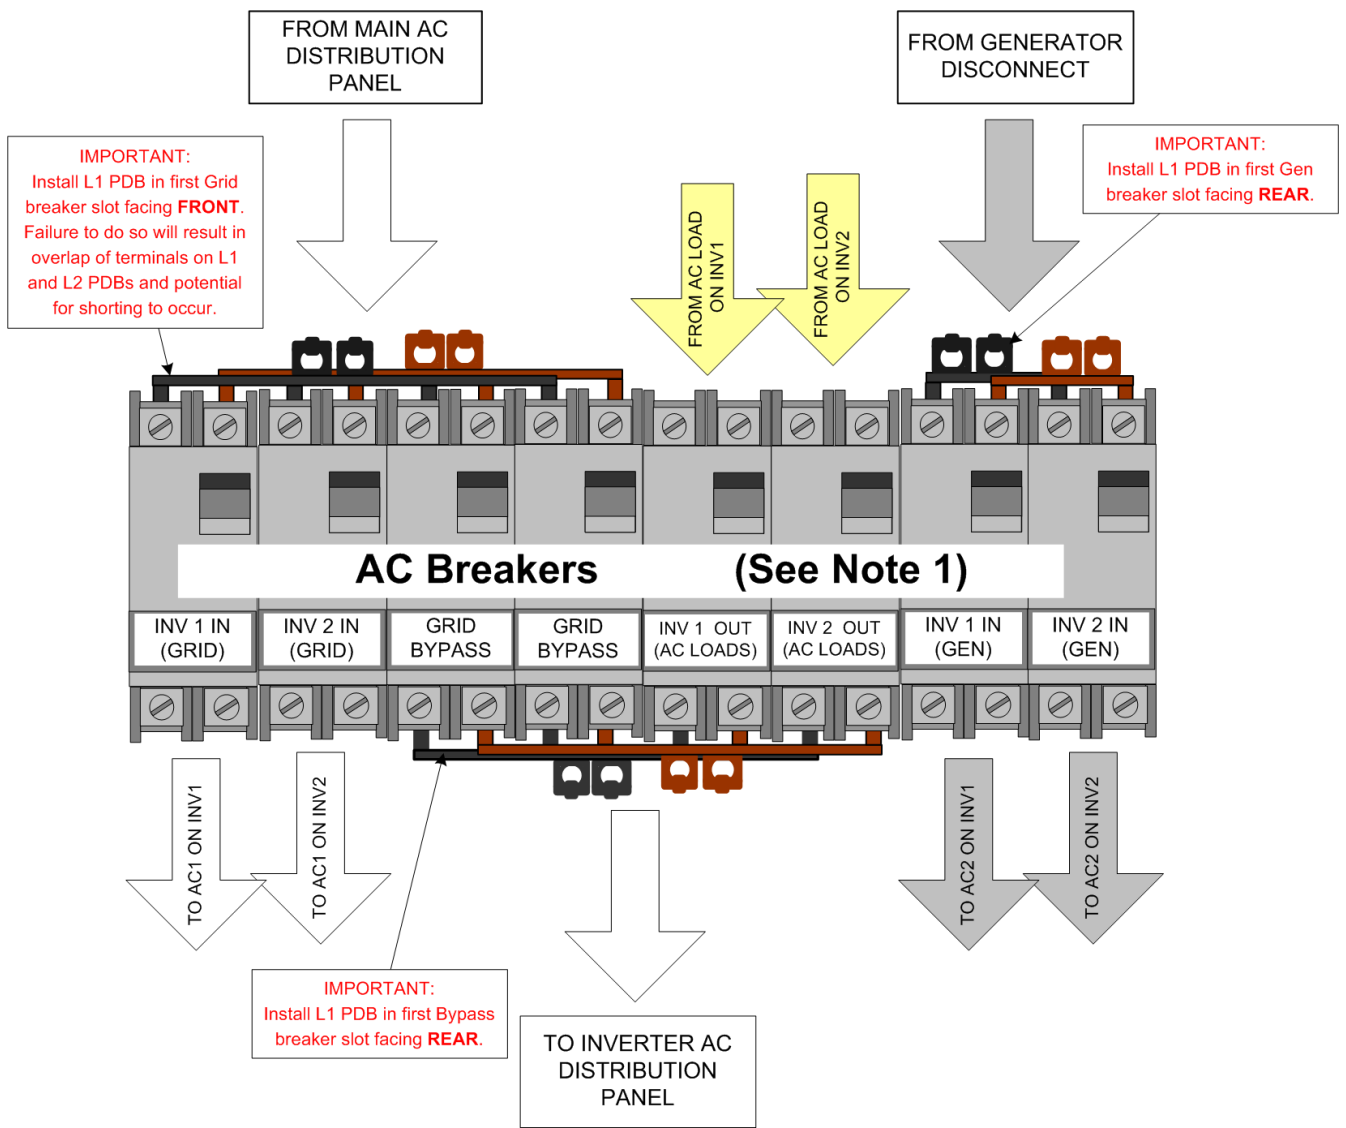

Figure 1 Dual Inverter AC Breaker Arrangement and Wiring Enlargement with Multiple AC Input Sources
6. If a backup generator or other secondary AC source is installed in the system, reuse two of the dual-tab power distribution bars previously installed on INV1 Grid/Bypass breakers for generator breakers as shown Figure 1.
2. Mount the nine breakers on the din rail and install power distribution bars as follows (refer to figures 1 & 2):